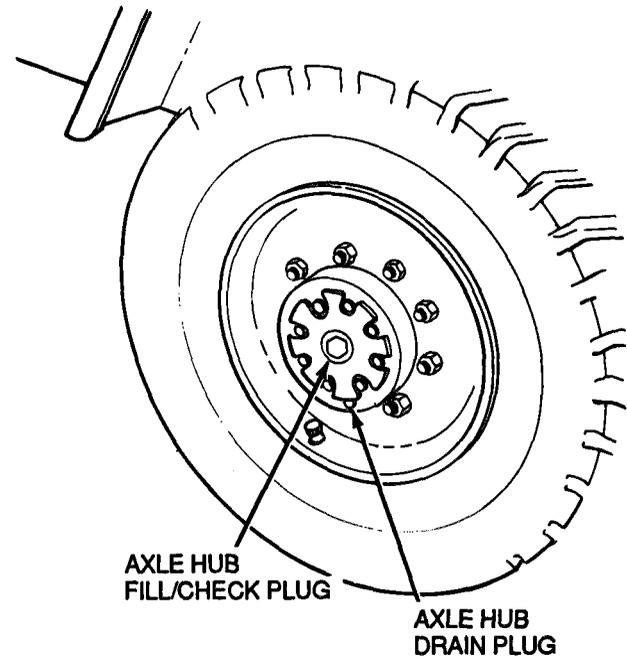

Figure 3-9
1. Remove axle hub fill check plug (Figure 3-9).